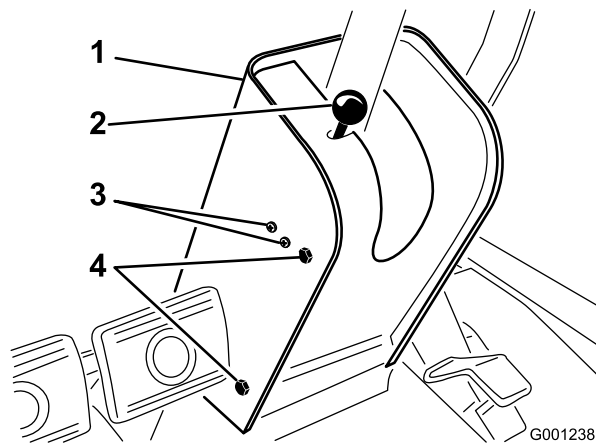

Figure 49
2. Remove knob from parking brake rod and screws from steering tower cover (Figure 49).
4. Loosen screws and nuts securing parking brake switch to left side of steering tower (Figure 49).